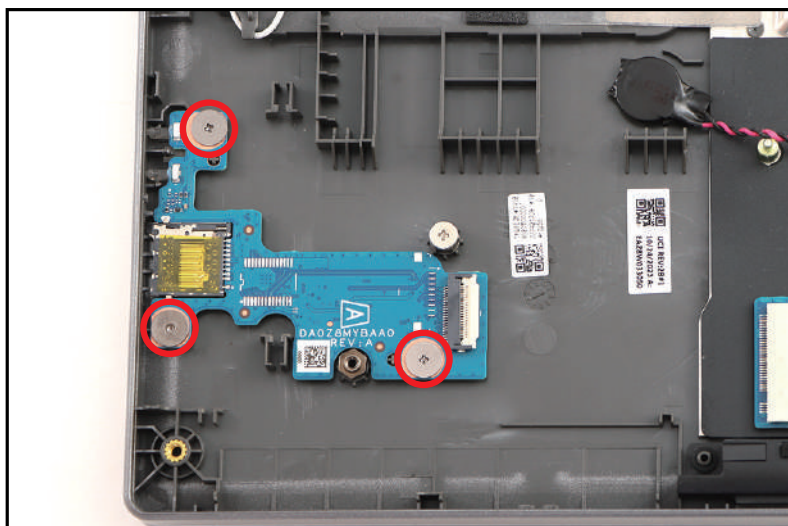

Figure 3-120. Replacing the Card Reader Board
2. Install three (3) screws to secure the card reader board (Figure 3-120).